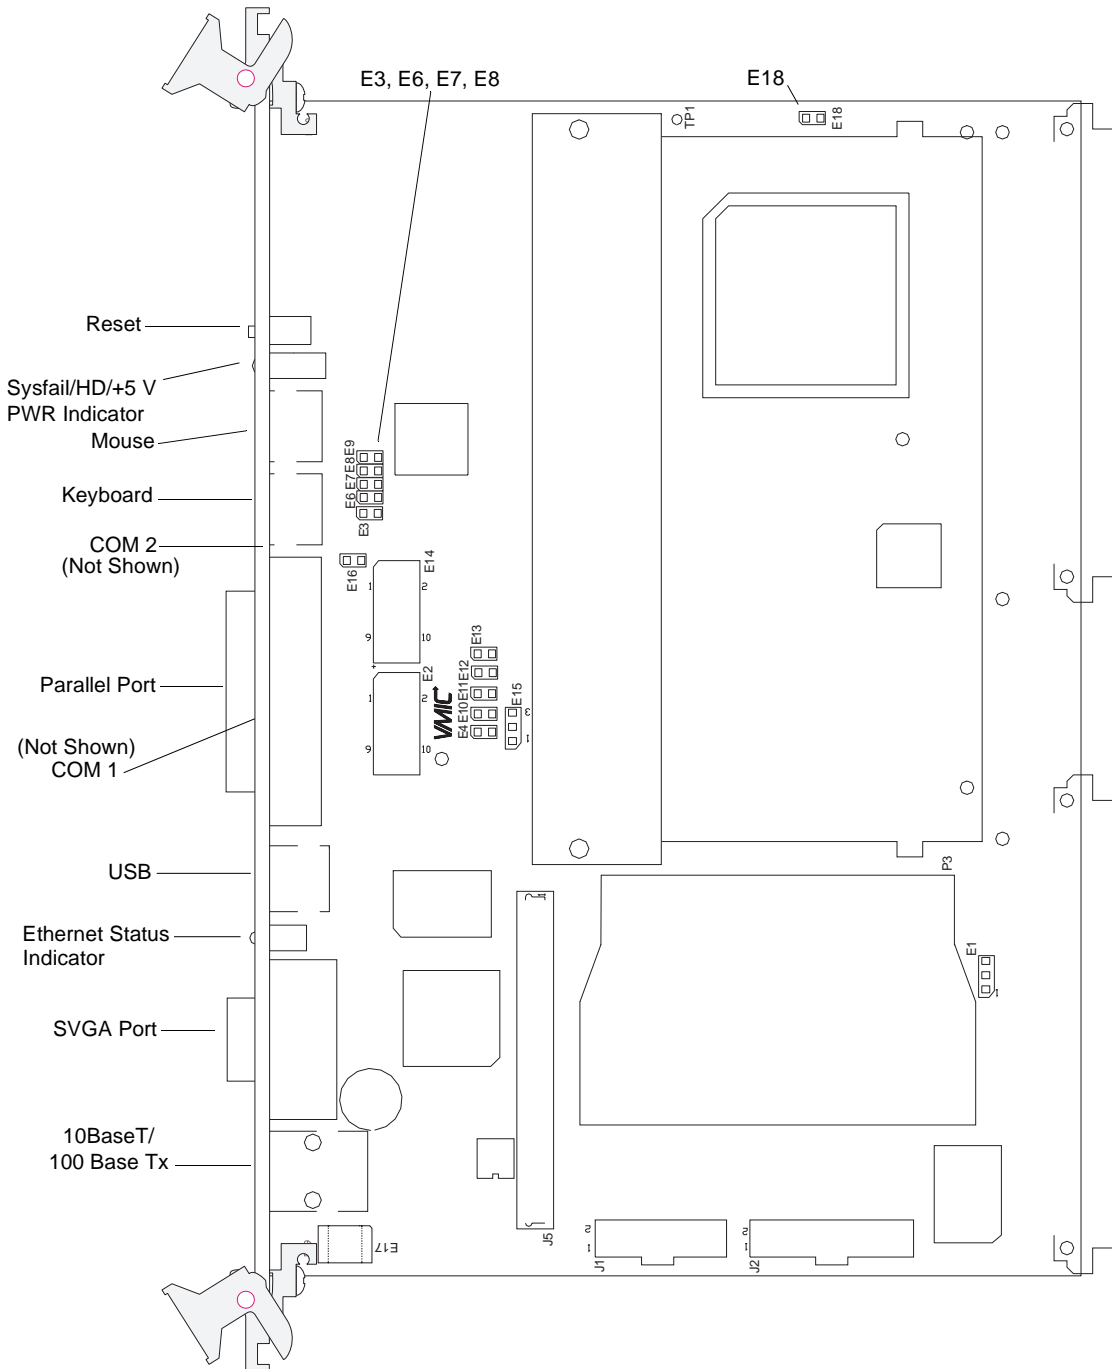

Figure 2-1 VMIVME-7697 CPU Board, I/O Port, and Jumper Locations
The VMIVME-7697 is tested for system operation and shipped with factory-installed header jumpers. The physical location of the jumpers and connectors for the dual board CPU are illustrated in Figure 2-1 on page 33 and Figure 2-3 on page 41. The definitions of the CPU board jumpers and connectors are included in Table 2-1 through Table 2-16. The Tundra Universe II-based PCI-to-VMEbus Bridge jumper configuration is discussed in a following section.
3. Remove the 2 front panel screws from the bottom of the front panel (see Figure 2-1).